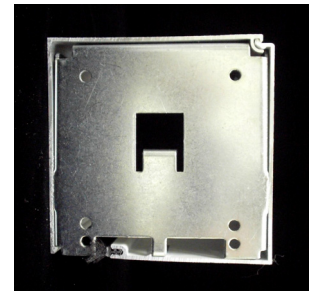

Figure 23 Fascia Snapped
- Rotate the fascia toward the wall and snap it into place (Figure 23).